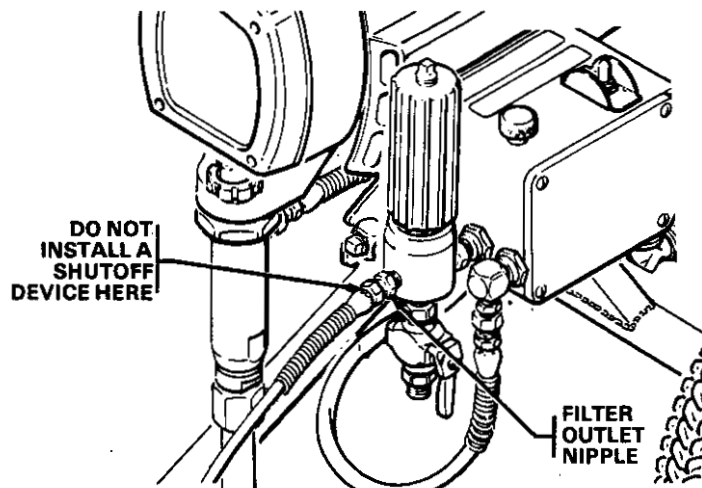

Fig 1
### 1. Connect **Hose** and Gun (Refer **to** Fig 1.)
- Never install any shutoff device between the filter and the main hose. See Fig 1.